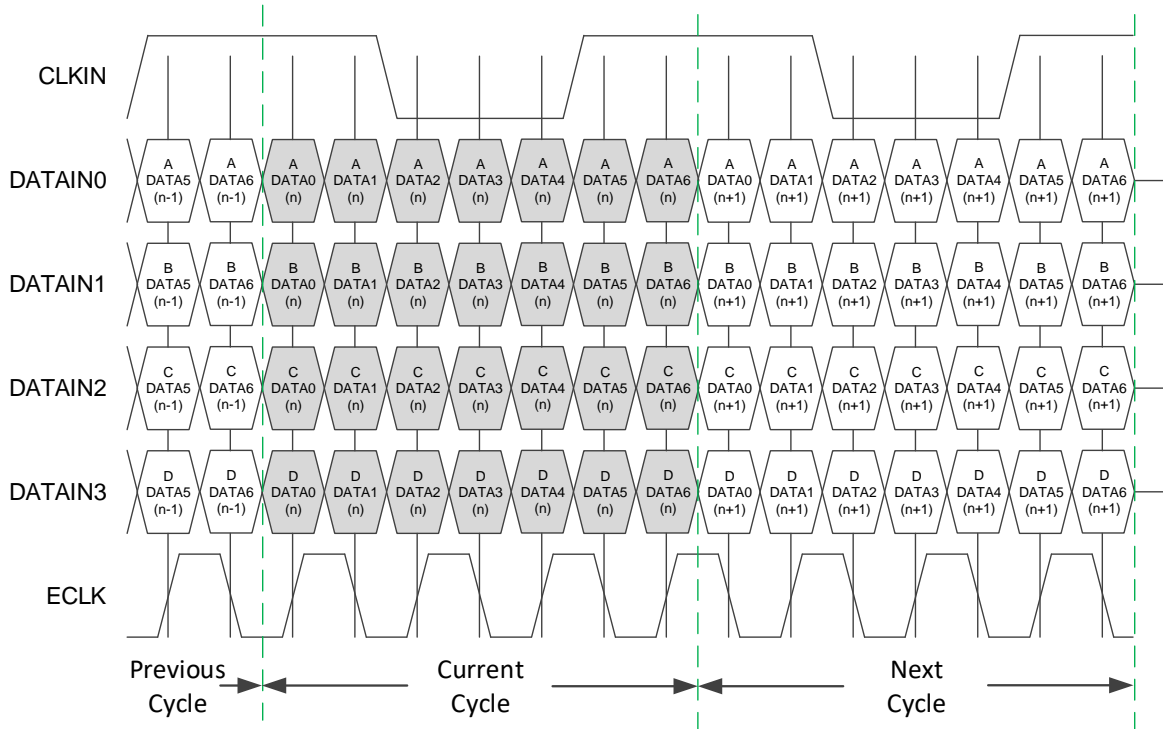

Figure 2.2. OpenLDI/FPD-LINK/LVDS Input Bus Waveform
Figure 2.2 shows the timing of LVDS 7:1 input interface. There is a 2-bit offset between the rising edge of LVDS clock and the word boundary. Each word is 7-bit long.
- 21-bit/28-bit data is divided into three or four data lanes depending on Data Type selected (see Figure 2.2)